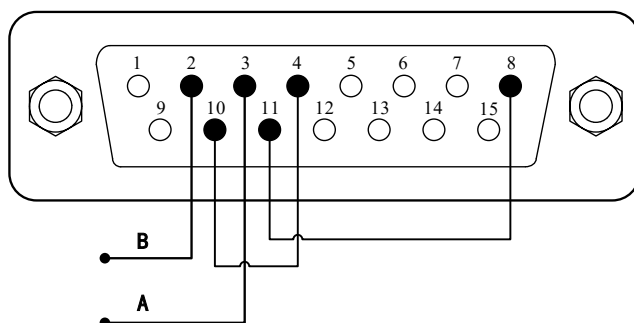

Figure 18. Communication Mode with Internal Power Source
- 1) When the power is off, wire the DB15 connector as shown in Figure 18 and connect it to the DB15 port on the rear of the pump. An external DC power source is recommended to avoid electrical interference.